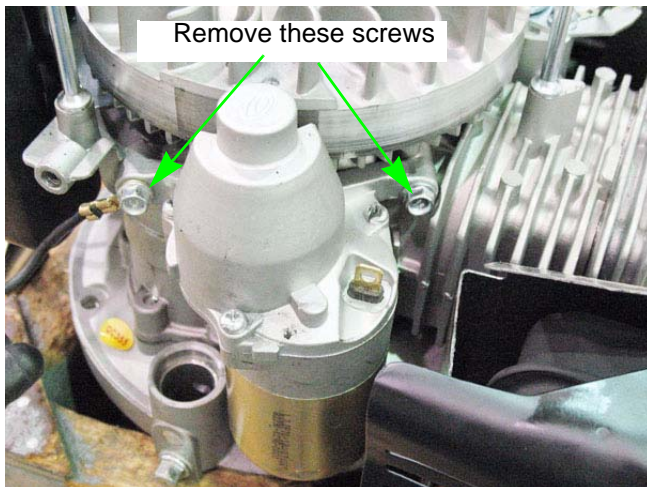

Figure 6.20
4. Remove the two screws that secure the starter using a 10mm wrench. See Figure 6.20.